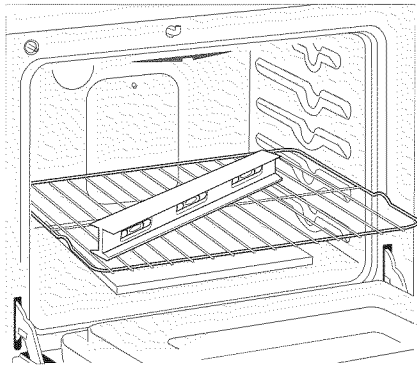

Figure 8
3. Check if the range is level by installing an oven rack in the center of the oven and placing a level on the rack (Figure 8).
2. Place a level on the rack (see Figure 8). Take 2 readings with the level placed diagonally in one direction and then the other. Level the range, if necessary, by adjusting the 4 leg levelers with a wrench (see Figure 17).